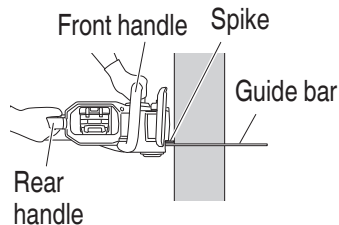

Fig. 23
- (4) When cutting wood horizontally, turn the unit body to the right so that the guide bar is below and hold the upper side of the front handle with your left hand. Hold the guide bar horizontally and place the spike that is on the front of the unit body on the lumbar. Using the spike as a fulcrum, cut into the wood by turning the rear handle to the right. **(Fig. 23)**